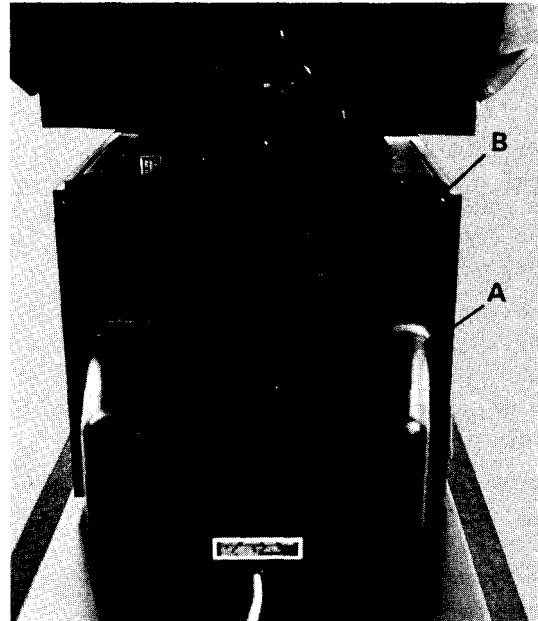

Fig. 10
- 1) Remove motor cover by removing (6) screws, Item A, Fig. 10 and pulling bottom of cover out until top of cover disengages from retaining channel.
- 2) Replace motor cover by inserting top of cover into retaining channel, Item B, Fig. 10 and
pushing bottom of cover in until top is fully engaged in channel. Align holes and install (6) #10 x 3/8" screws, Item A, Fig. 10.